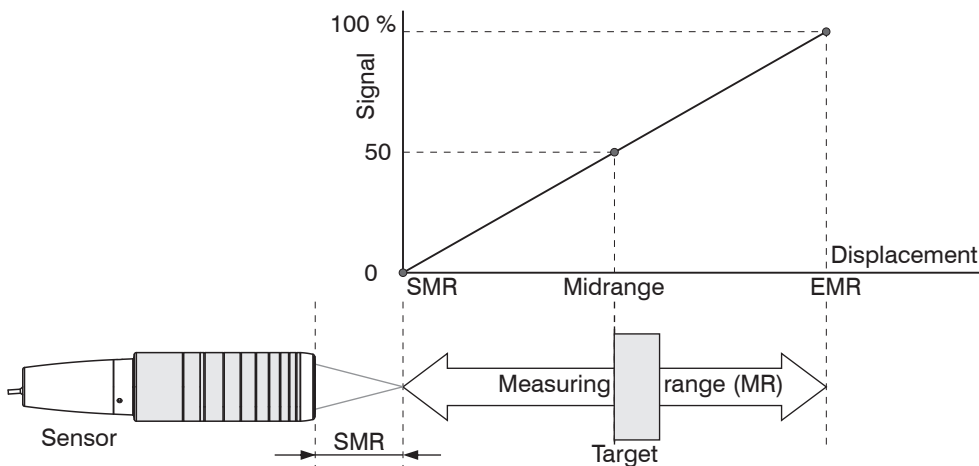

Fig. 6.2: Definition of measuring range and output signal
- ▶ Position the target in the mid of the measuring range, see Fig. 6.2. Keep adjusting the measuring rate until you get a high signal intensity that is not saturated.